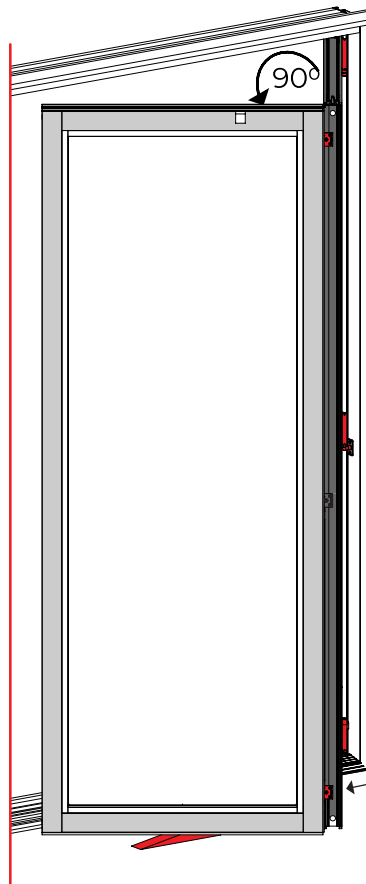

FIG 38
- Complete installation of the set of hinges at **Node 2** that connect the 1st and the 2nd Panel. Use FA8609. **[FIG 38]**